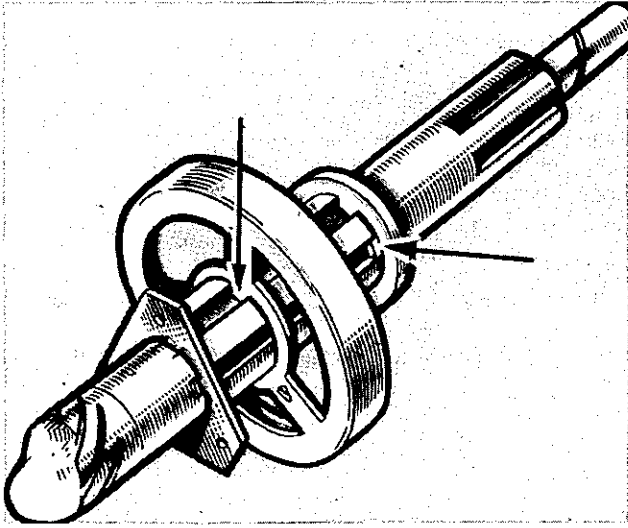

Fig. 19. Showing correct engagement with mainshaft splines for "first" speed synchro cup and thrust washer
- (d) Apply the first mainshaft gear thrust washer, ensuring that its three lugs engage alternate splines to those occupied by the synchrocup mentioned in previous operation, as shown in Fig. 19.